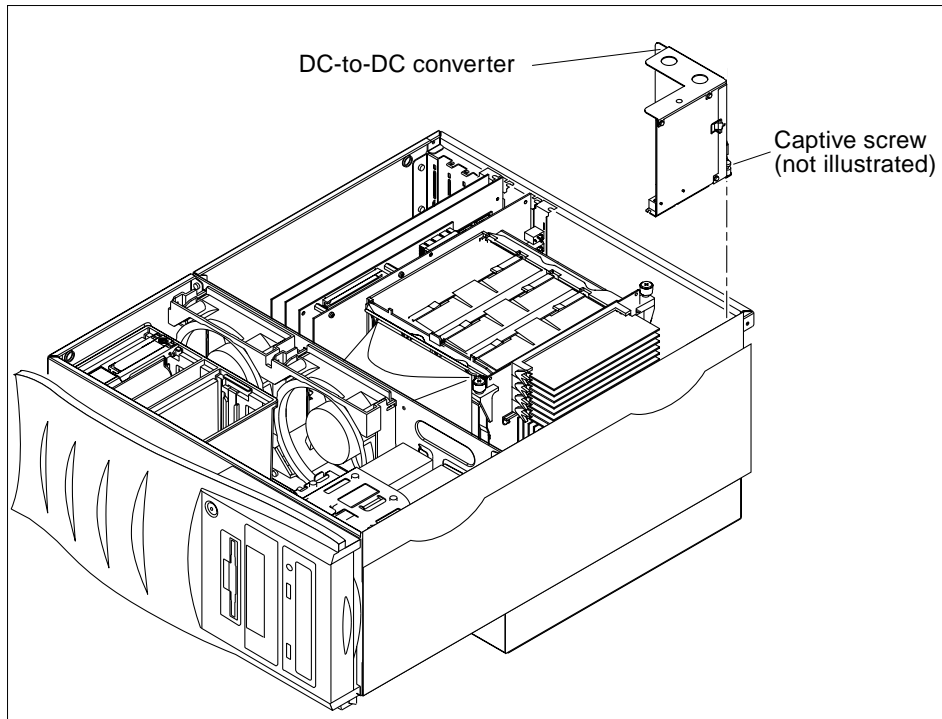

FIGURE 7-4 Removing and Replacing the DC-To-DC Converter Assembly
3. Remove the DC-to-DC converter assembly as follows (FIGURE 7-4):
1. **Replace the DC-to-DC converter as follows (FIGURE 7-4):**